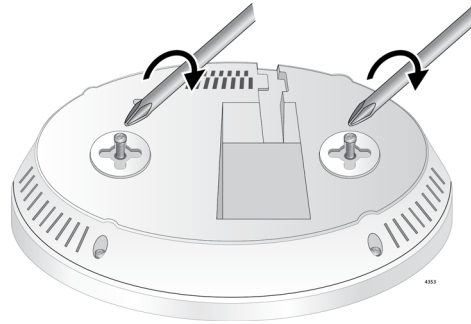

Figure 20. Attaching the Screws to the Access Point
3. Attach the two screws to the access point, as shown in Figure 20.